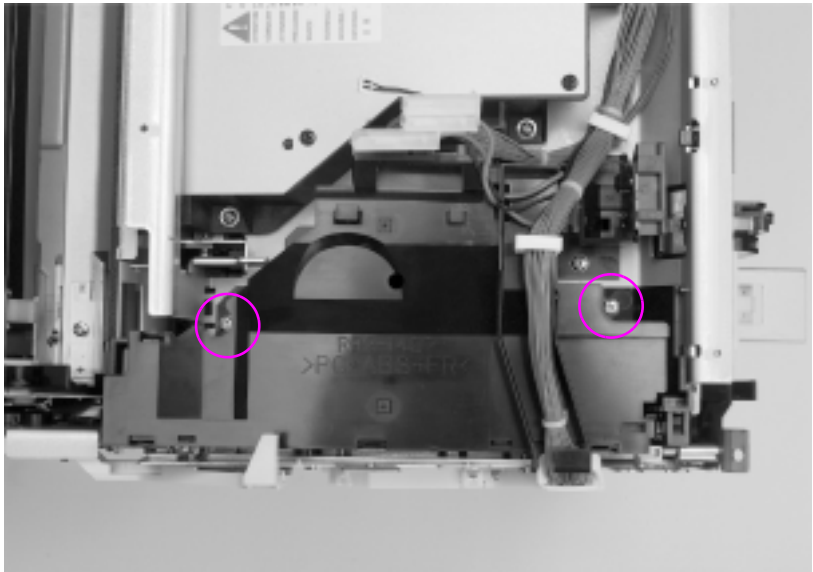

Figure 6-20 Upper front drawer assembly removal and replacement (1 of 2)
- 9 Remove the two screws from the black plastic housing shown in Figure 6-20.